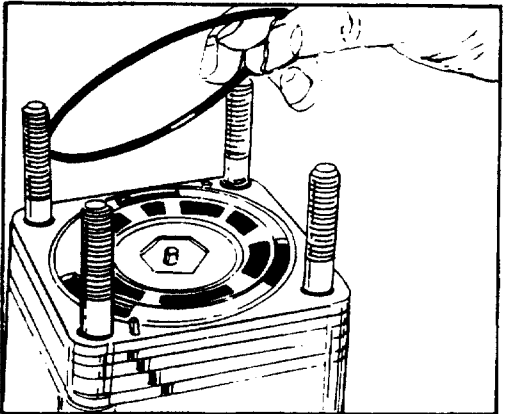

FIGURE 84.
- 35. Apply clean grease to the valve ring seal ring (3). Install seal ring in the valve ring (12). See figure 84.